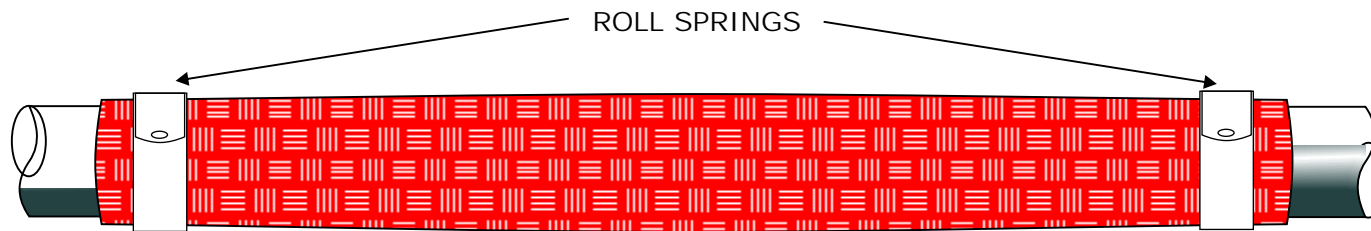

Fig 6
9. If Joint type SPA NHF is supplied, this incorporates a Fire Barrier Tube. Joint type SPA NH is supplied without it. Slide the Red Silicone coated Fire Barrier Tube across the joint gap so that it overlaps equally distant at both sides. Secure at each side with a Stainless Steel Roll Spring as shown in Fig 6.